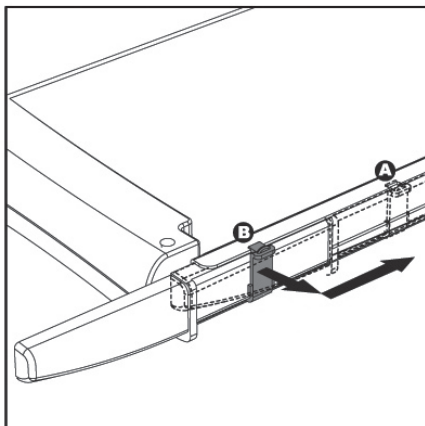

Figure 3
- Take the guillotine trimmer on the lowest position, lift the lock button to the right and move it from position B to A lock the guillotine trimmer after use. (see Fig 3)